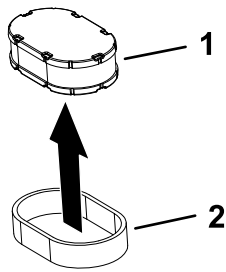

Figure 39
5. Separate the foam and paper elements (Figure 39).